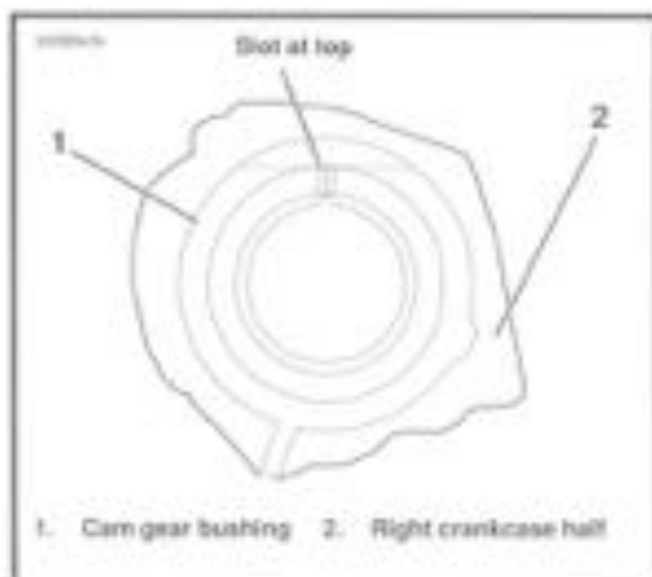

Figure 3-64. Cam Gear Bushing Installed in Crankcase
1. See Figure 3-64. Each cam gear bushing (1), to be installed in right crankcase half (2), must be positioned in crankcase bore with its filing slot at exact top of bore (12 o'clock position).
1. Separate two halves of crankcase, if not already accomplished. Place right crankcase half on flat surface with gearcase side upward. Bushing to be reamed must be oriented as shown in Figure 3-64.